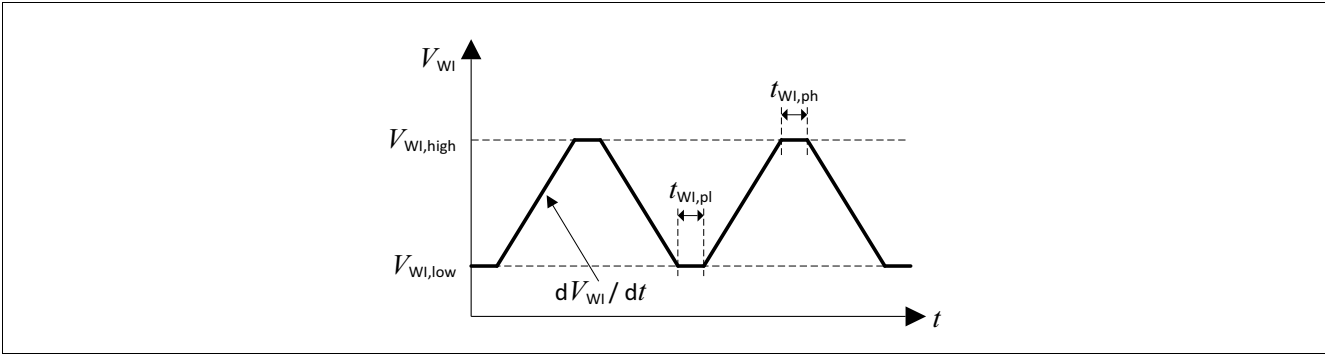

Figure 9 Test pulses watchdog input WI
The watchdog is triggered by a falling edge at the watchdog input pin “WI”. The amplitude and slope of this signal has to comply with the specification (Watchdog input WI). For details regarding test pulses, see Figure 9.
- 2) For details on applied test pulse, see Figure 9.